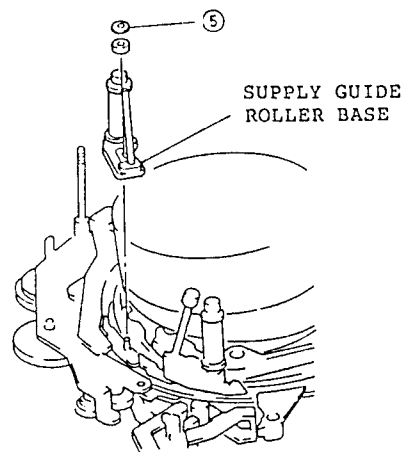

Fig. 2-81
5. Remove one (1) washer holding the supply guide roller base. (See Fig. 2-81)
6. Remove the supply guide roller base. (See Fig. 2-81)
(See Fig. 2-81)